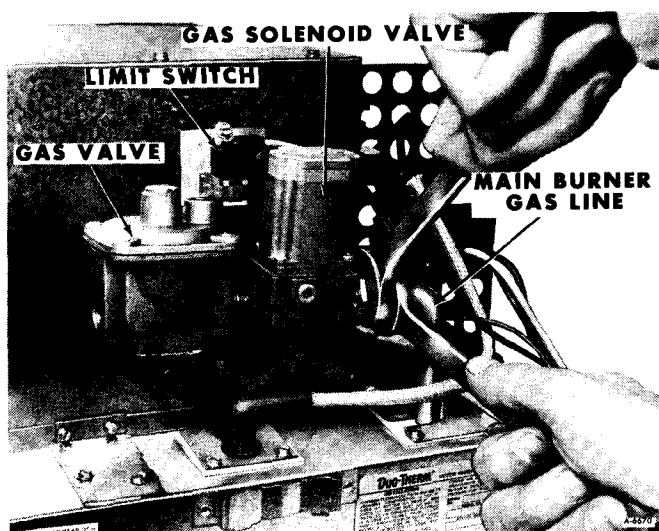

Figure 11—Removing Gas Solenoid Valve
3. Remove gas solenoid valve from main burner gas line (figure 11).
2. Connect gas solenoid valve to main burner gas line (figure 11).